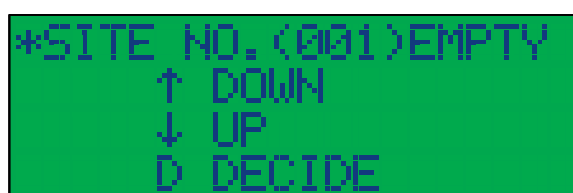

Fig.4-2 Display Screen of Initial State
- The initial state of CTS-02V4 body will be displayed as shown in Fig.4-2.